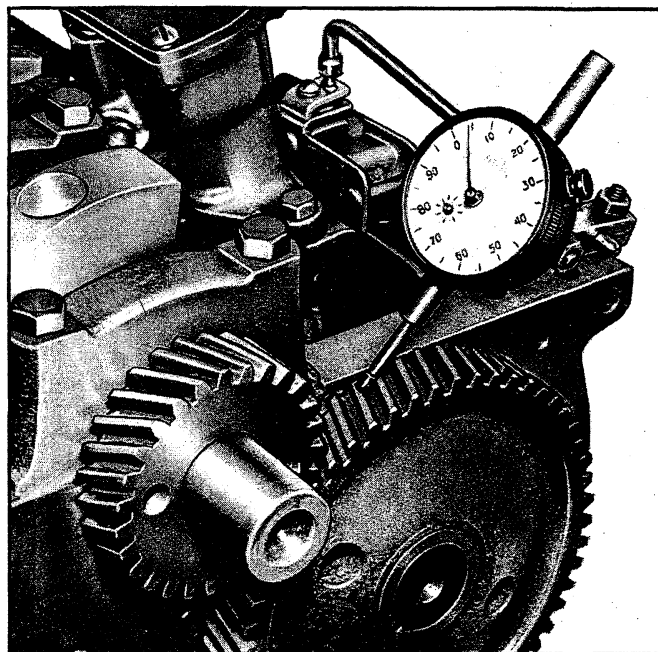

Fig. 17L - Checking Timing Gear Backlash
5. Check the backlash between the timing gear teeth with a dial indicator (fig. 17L). The backlash should not be less than .004" nor more than .006".